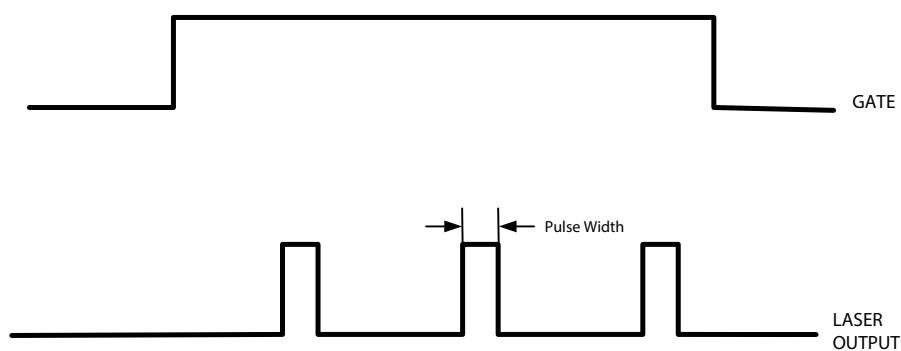

Figure 4-12. Gated Mode
Gated Mode enables pulsing by applying a TTL signal externally through the Gate 1 port on the rear of the laser head. (see “Gate 1 and Gate 2” on page 3-13). As in Continuous Mode the amplifier repetition rate can be selected through the Coherent GUI Main menu or through the serial command SET. In Gated Mode, TTL high enables output pulses and TTL low inhibits output pulses (see Figure 4-12). To utilize Gated Mode the Enable External Gate button is selected from the GUI Triggering menu (see Figure 4-4 on page 4-7), or by entering the serial command PM=1.
The Monaco laser can emit a number (1–1,000,000) of laser pulses (or seeder bursts) in a burst configuration at a specified repetition rate. In Process Burst Mode the number of pulses emitted in a burst is controlled by the Burst Pulses (BP) setting. To utilize Process Burst Mode the External Triggering and Process Burst Mode buttons are selected from the Triggering Menu (see “Triggering Tab Selections” on page 4-7), or by entering the serial command PM=4. The repetition rate and the number of pulses in a process burst can be specified using the Coherent GUI, or through the serial command SET and BP, respectively. Each process burst is initiated by the transition from TTL low to TTL high similar to Gated Mode shown in Figure 4-12. The process burst will continue until the specified number of pulses is generated if the Gate 1 signal (see “Laser Head Features Drawing” on page 4-27) remains TTL high. A process burst can be shortened by a transition from TTL high back to TTL low. If a process burst is allowed to continue for the specified number of pulses, the Gate 1 signal must be reset from TTL high to TTL low before initiating the next burst.